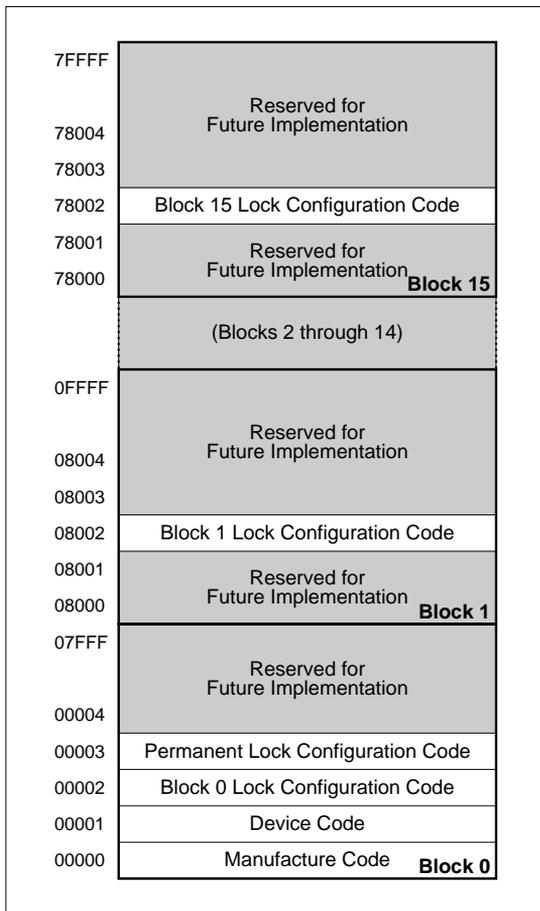

Fig. 2 Device Identifier Code Memory Map
The read identifier codes operation outputs the manufacture code, device code, block lock configuration codes for each block, and the permanent lock configuration code (see **Fig. 2**). Using the manufacture and device codes, the system CPU can automatically match the device with its proper algorithms. The block lock and permanent lock configuration codes identify locked and unlocked blocks and permanent lock-bit setting.
IA = Identifier code address : see **Fig. 2**.
The identifier code operation is initiated by writing the Read Identifier Codes command. Following the command write, read cycles from addresses shown in **Fig. 2** retrieve the manufacture, device, block lock configuration and permanent lock configuration codes (see **Table 4** for identifier code values). To terminate the operation, write another valid command. Like the Read Array command, the Read Identifier Codes command functions independently of the VPP voltage and RP# can be V_{IH} or V_{HH}. Following the Read Identifier Codes command, the following information can be read :
1. X selects the specific block lock configuration code to be read. See **Fig. 2** for the device identifier code memory map.